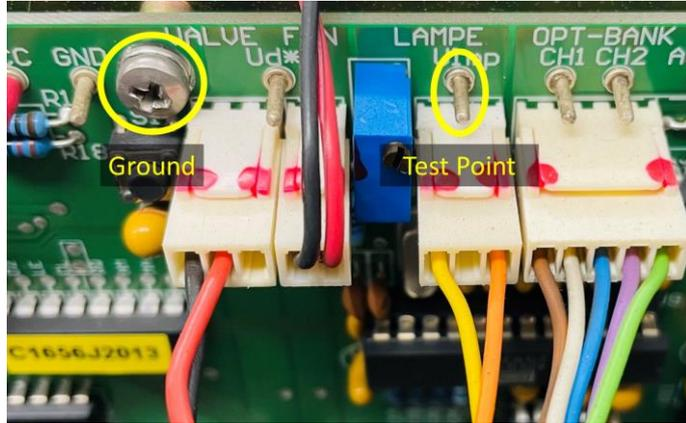

Figure 11. Test points on the mainboard
2. Use a voltmeter to check the lamp voltage at the test points on the circuit board (as shown in Figure 11).